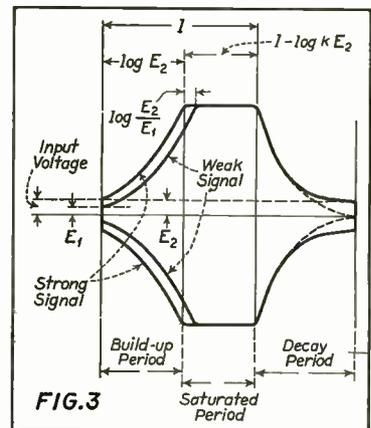

FIG. 3 Illustrating the operation of the super-regenerative detector.
Fig. 3. A group of oscillographic photos showing waveforms obtained under various conditions of Class AB operation. Fig. 3d shows the 9000-cycle waveform obtained with the resistance-coupled method described in this article.
The four oscillograph pictures in Fig. 3 show a startling resume of the results which can be expected with the system described, compared to the results obtained with conventional transformer coupling. Fig. 3a illustrates the waveform at 400 cycles of three setups (two transformer and one resistance) taken at 35 watts output on the above amplifier. In all three the waveform coincides so closely that one picture suffices for illustration. Fig. 3b shows the waveform at 9000 cycles of one transformer at the same output level. Fig. 3c is a similar 9000-cycle exposure with a second transformer of another manufacture. Note that the breakup of waveform has different characteristics, probably due to a variation in design.
Now referring to Fig. 3, we can examine the operation of the super-regenerative detector in greater detail. A signal is fed into the grid of a tube so connected that in its steady state it would serve as an oscillator. When the input signal is of the same frequency as the frequency at which the tube tends to oscillate, the impulse fed to the grid of the tube is amplified and fed back to the input again. Here it is again amplified and again fed back.
From (2) it is evident that the envelope of the current during the build-up cycle, or the average current, is independent of the amplitude of the signal coming into the super-regenerator. This is shown graphically in Fig. 3. During saturation of the tube the plate current is constant and the length of time it lasts varies as the logarithm of the input voltage. Thus it becomes apparent that the average current is equal to a constant less the logarithm of the input voltage. This is especially true since during the decay cycle the tube is completely paralyzed and the average plate current during this portion of the cycle is always constant.